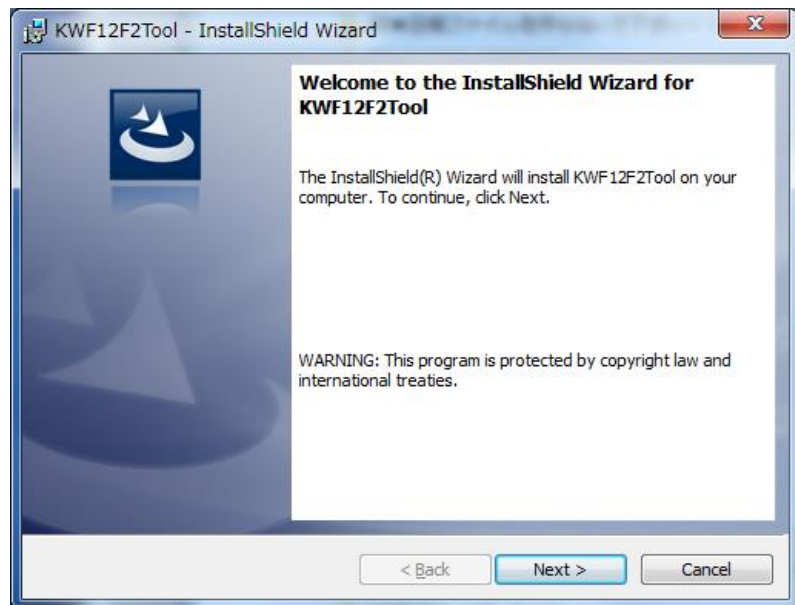

Fig 1.2 Welcome to the InstallShield Wizard
- (1) If the set-up file (setup.exe) is executed by using a personal computer in which no KWF-12F2 Maintenance Tool has been installed, the screen of Fig 1.2 shown below appears.